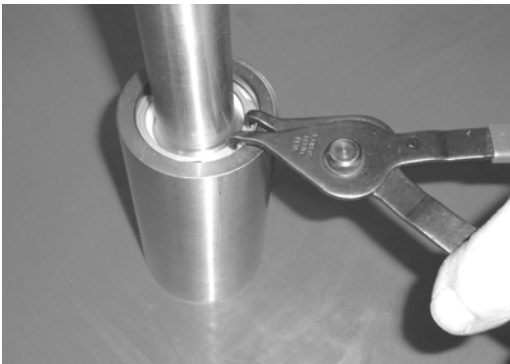

Figure 12-8 Snap Ring secures Valve Sleeve and Bushing to Stem.
8. The Snap Ring secures the Valve Sleeve and Valve Bushing to the Valve Stem. Use snap ring pliers to install the Snap Ring into the groove as shown in Figure 12-8.